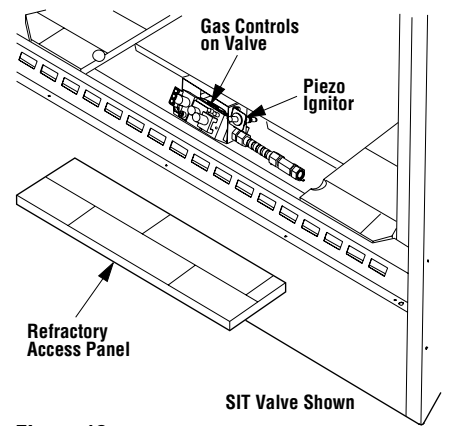

Figure 13
Step 6. Connecting Gas Line – Make gas line connections. All codes require a shut-off valve mounted in the supply line. Figure 15 illustrates two methods for connecting the gas supply. The flex-line method is acceptable in the U.S., however, Canadian requirements vary depending on locality. Installation must be in compliance with local codes. The gas control valve is located in the lower control compartment. To access the valve remove the refractory access panel and set aside (Figure 13).
Step 9. Checking the System – With the gas line installed, run initial system checkout before closing up the front of the unit. Follow the pilot lighting instructions provided in the Homeowner's Care and Operation Instructions. The piezo ignitor is located in the control compartment (see **Figure 13**).